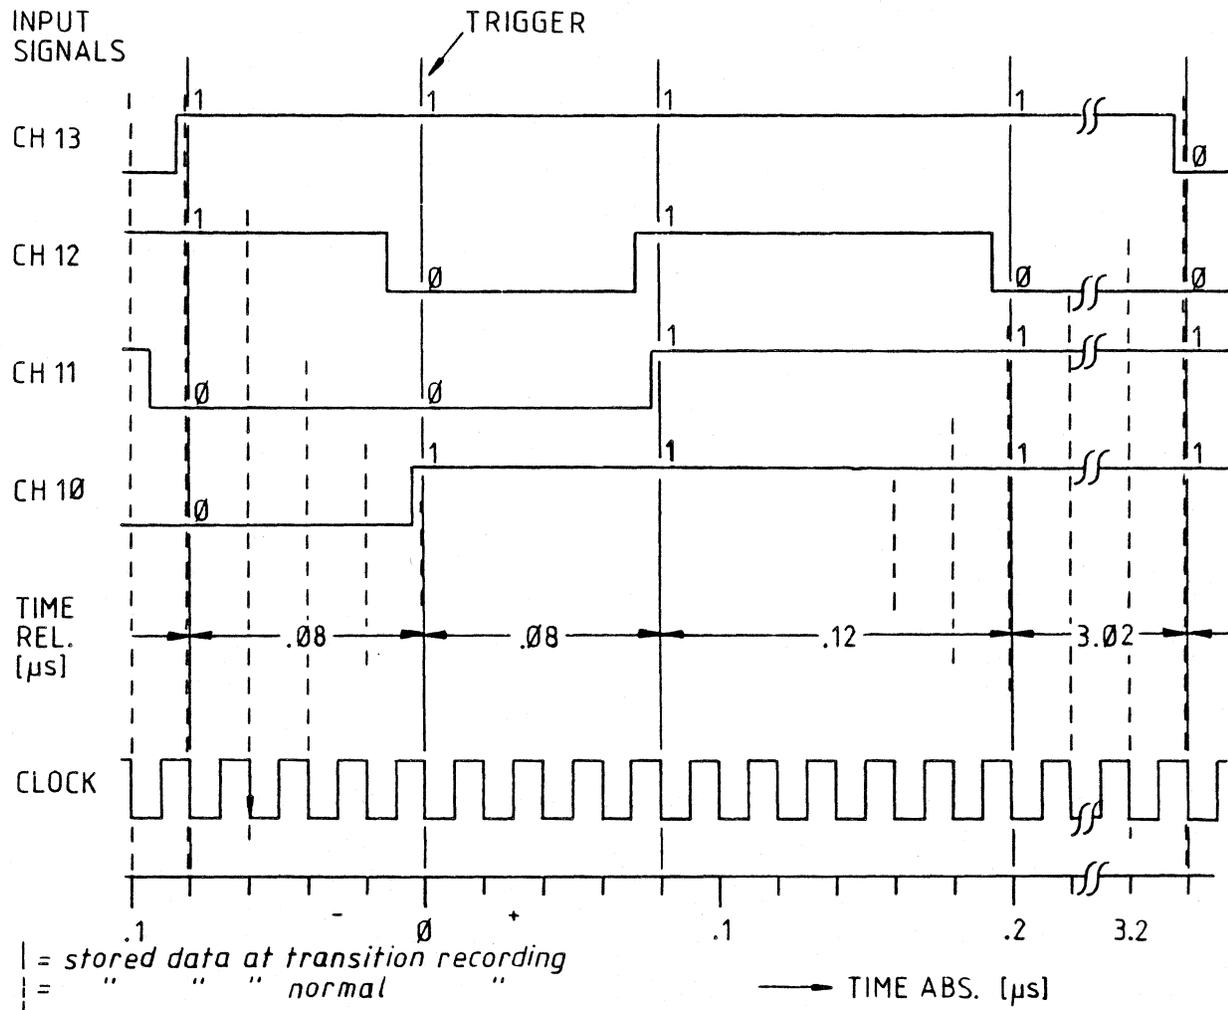

Figure 3-17 Transition Recording Timing Diagram
3. **TRANSITION RECORDING.** A data word is stored only when it differs from the previously recorded data word by at least one bit. During Transition recording all sampling is with the internal clock which is preset to 20 ns rate. Thus the smallest interval between two separately recorded data transitions equals 40 ns. Transition recording is not possible when two master clocks have been assigned in the Configuration Menu. It is also not possible when in the Glitch mode or in Interlace. Checking for the difference between data words can be limited to certain channel groups by selecting the probes whose data is to be sampled. See also Figure 3-17, Transition Recording Timing Diagram
When this option is added to the KLA, the point in time when a word is detected during Transition recording and Data Qualified recording is stored. This time information can be stored in absolute time units with 10 ns resolution, or in cycles of the master clock M1. The setting for the time units to be used is made in field 14 as identified in Figure 3-17 for Data Qualified recording, and in Figure 3-18, for Data Qualified recording.